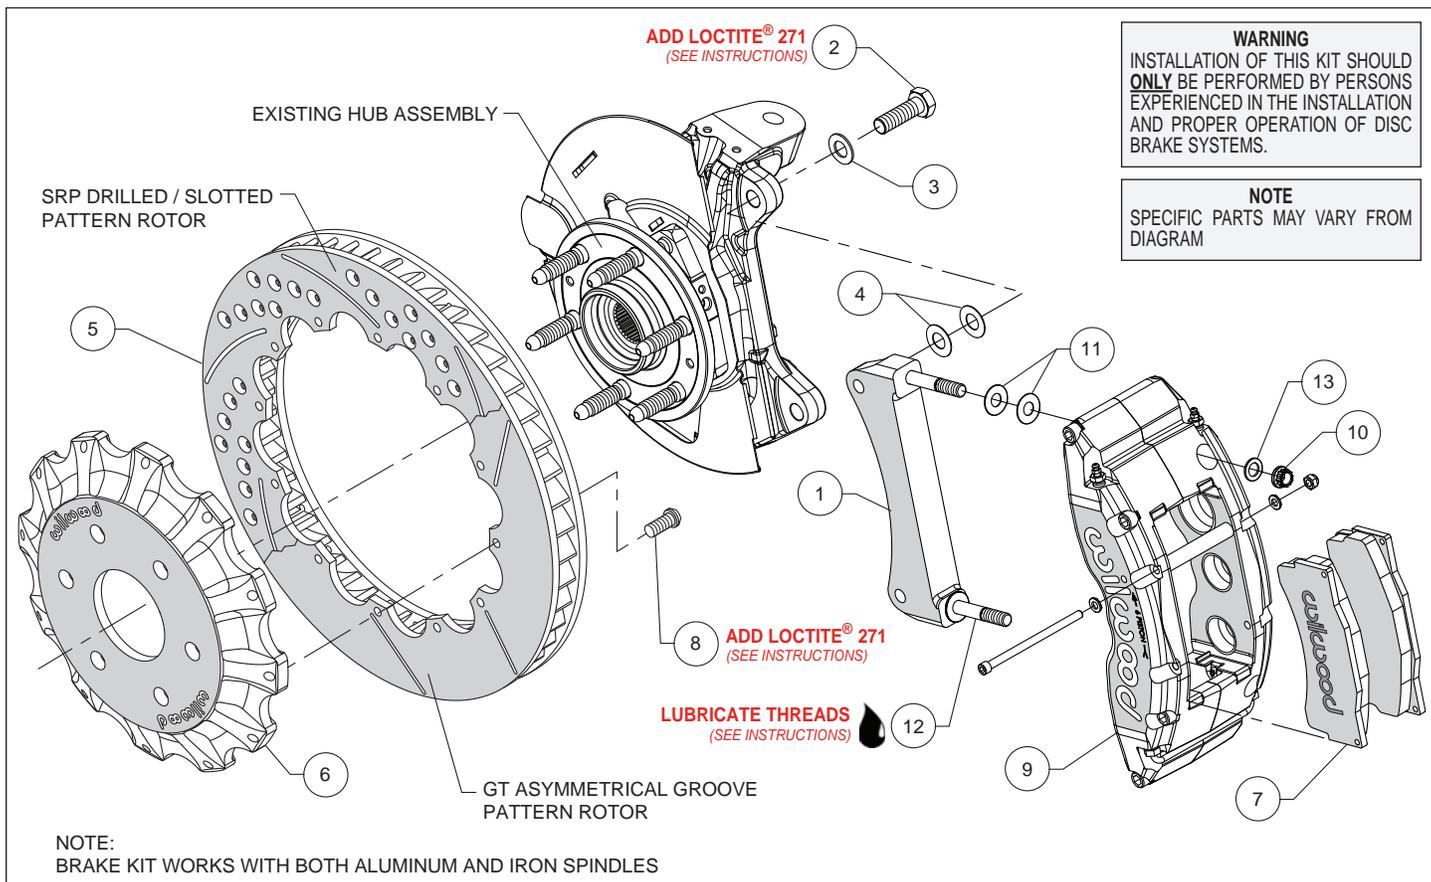

Figure 1. Typical Installation Configuration
Assembly Instructions (numbers in parenthesis refer to the parts list and Figure 1 on the preceding page):
- The caliper mount bracket (1) should initially be installed with clean, dry threads on the mounting bolts. Orient the bracket as shown in Figure 1, and install using washers (3) and bolts (2). Initially place two .029 thick shims (4) on each bolt between the bracket and upright, Figure 1. Temporarily tighten the mounting bolts. **NOTE:** *The bracket must fit squarely against the mount bosses on the upright.* Inspect for interference from casting irregularities, machining ridges, burrs, etc. Later, after the caliper alignment has been checked, the mount bolts will be secured using red *Loctite*[®] 271.
- Orient the rotor (5) and the hat (6) as shown in Figure 1. Attach rotor to hat using bolts (8). Finger tighten. Using an alternating sequence, remove bolts (8) one at a time, apply red *Loctite*[®] 271 to the threads and torque to 25 ft-lb.
- NOTE:** *This kit contains distinct right and left hand calipers that must be mounted in a specific direction, as described below.* Lubricate the caliper mounting studs (12) with lightweight oil. Initially place two .030" thick shims (11) on each stud as shown in Figure 1. Mount the caliper (9) onto the bracket (1) using lock nuts (10) and washers (13), Figure 1. Ensure that the caliper is mounted so that the largest pistons are at the rotor exit end of the caliper, in relation to the direction of rotor rotation and with the bleed screws pointing up. Temporarily tighten the lock nuts and view the rotor through the top opening of the caliper. The rotor should be centered in the caliper. If not, adjust by adding or subtracting shims (4) between the bracket and the upright. Always use the same amount of shims on each of the two mounting bolts. Once the caliper alignment is correct, remove the bracket mounting bolts (2) one at a time, apply red *Loctite*[®] 271 to the threads, and torque to 70 ft-lb.
- Remove the two caliper center bridge pad retainer bolts, nuts, and tubes from the caliper. Insert the brake pads (7) into the caliper, with the friction material facing the rotor. Check that the top of the brake pad is flush with the outside diameter of the rotor. If not, adjust by adding or subtracting shims (11) between the caliper and the bracket. After the caliper pad height is set, reinstall the center bridge pad retainer tubes, bolts, and lock nuts. The lock nut should be snug without play in the bolt or tube. Be cautious not to over tighten. Torque the caliper lock nuts (10) to 47 ft-lb.